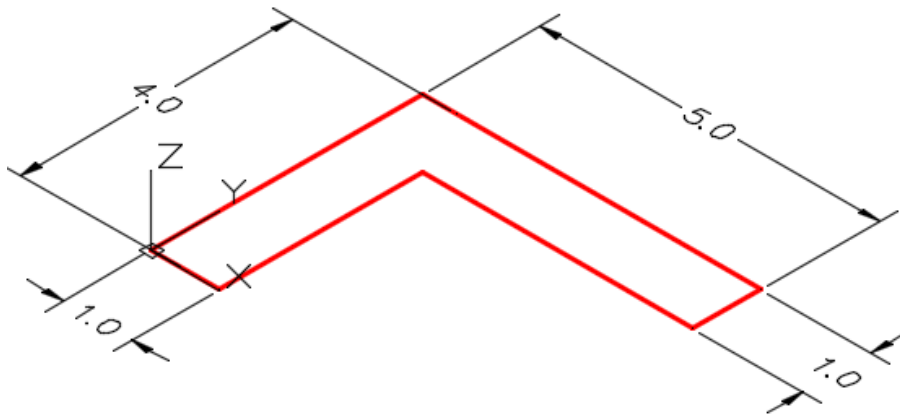

Figure Step 5
Step 5 Using the LINE command, draw the lines to outline the Top view. (Figure Step 5)